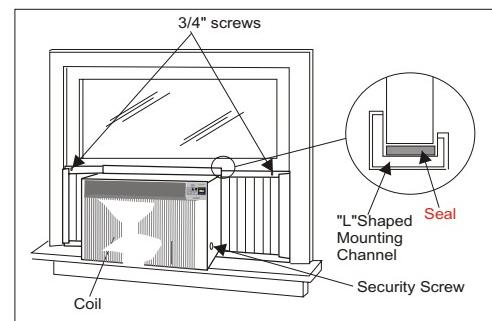

Fig. 12
B. Reinstall the slide-out-chassis security screws (removed earlier) on both sides of the cabinet. See (Fig. 12).
C. Now, secure bottom frame of shutters using one shutter clamp and one 3/4" screw on each side(Fig. 12).